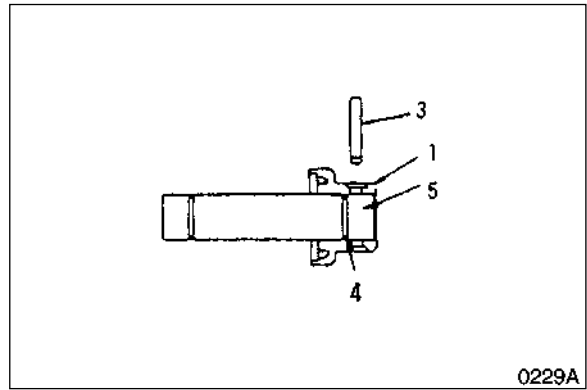

Figure 27
1. Degrease, clean and dry all parts before reassembly. Insert bushing (8, Figure 27) into the idler (7).
2. Grease O-ring (4, Figure 27) and insert it into the axle.
3. Align the bearing (1, Figure 27) and axle (5) holes and pin (3) them together.